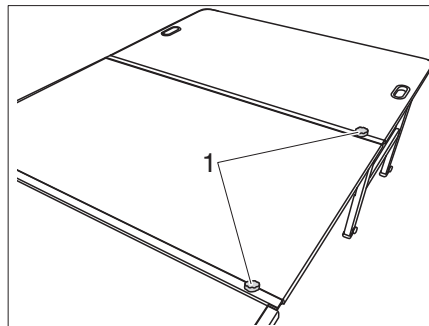

Fig. 31 Fit the safety mechanism
- Screw the star screws (Fig. 31,1) into both rail connectors to secure them.